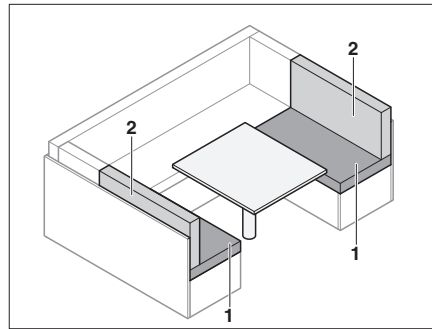

Fig. 70 Prior to conversion
- Remove the back cushions (Fig. 70,2).